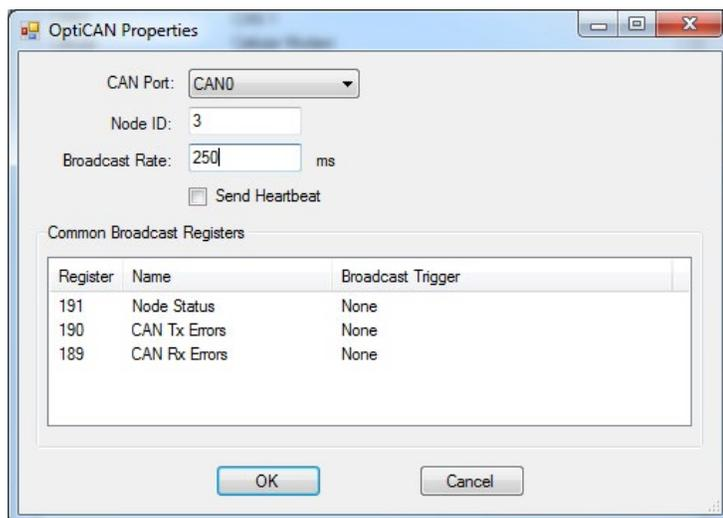

Figure 2-54 - OptiCAN Properties
- Enter the setup information for the OptiCAN network. Refer to Figure 2-54.